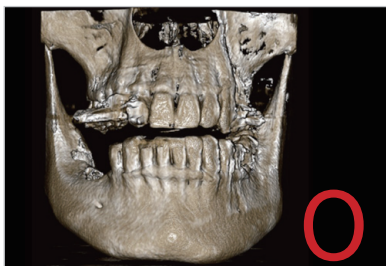

Fig.1 Open bite
- ① Remove any metallic objects in the head and neck region such as earrings, and glasses.
- ② Assure jaw separation during scan by biting over a cotton roll or similar object (Fig.1, 2, 3).